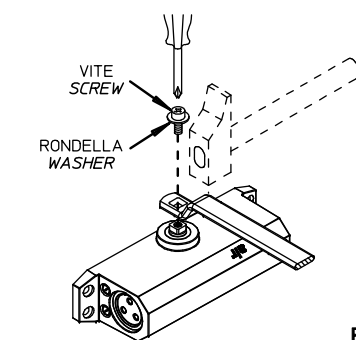

FIG. 3
2. ASSEMBLE ARM AND BODY AS SHOWN ON FIG.3 AND FIX THE TWO PARTS TOGETHER USING WASHER AND SCREW SUPPLIED WITH THE DOORCLOSER.